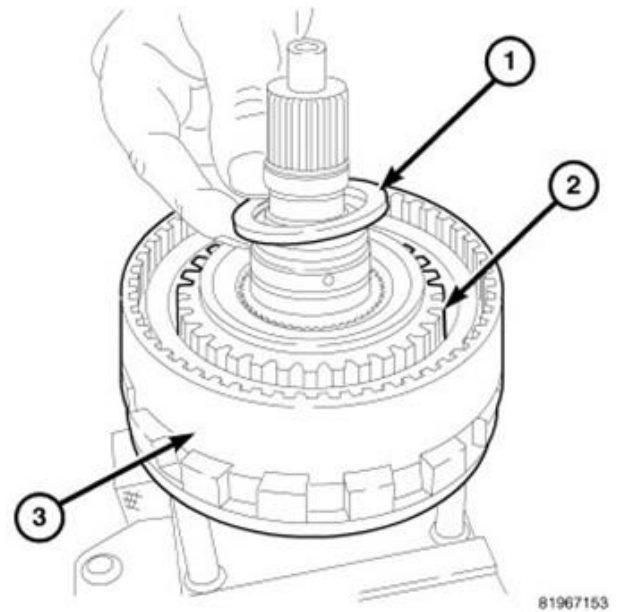

Figure 36 – Thrust Bearing
51. Remove the thrust bearing (1) from the overrunning clutch (2) (Figure 36).
64. Install the thrust bearing (1) to the overrunning clutch (2) (Figure 36).